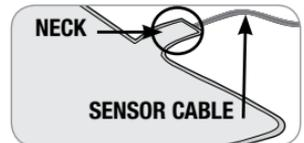

Fig. 23 -Neck of sensor pad
2. Make sure sensor pad air intake ("neck" of sensor pad) is clear and not blocked (Fig. 23). Air must flow freely in and out of sensor for alarm to function. Make sure liquid does not enter at "neck" of sensor pad, as this will damage sensor. If needed, use an incontinence pad to protect sensor from urine or other liquids.